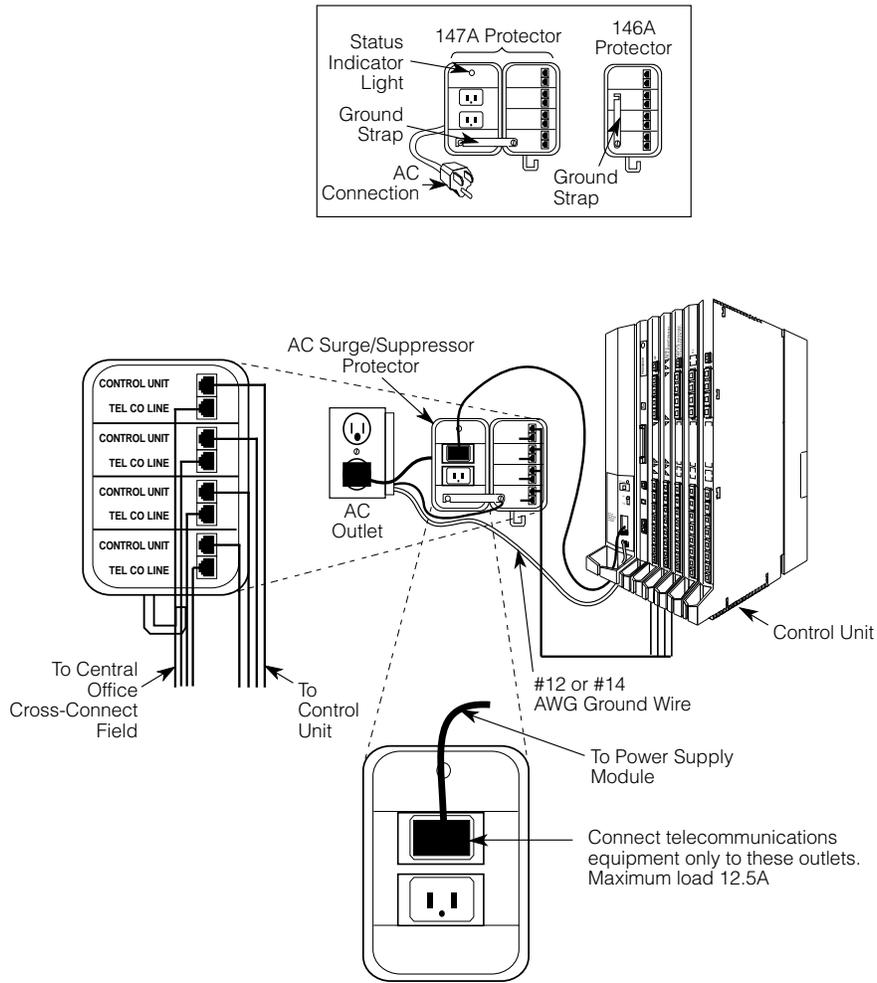

Figure 2-4. Installing 146A and 147A Protectors
- For more than 16 trunks, add another 147A protector and continue adding 146A protectors as needed. See Table 2-3 for various configurations and Figure 2-4 for a typical 147A protector installation.